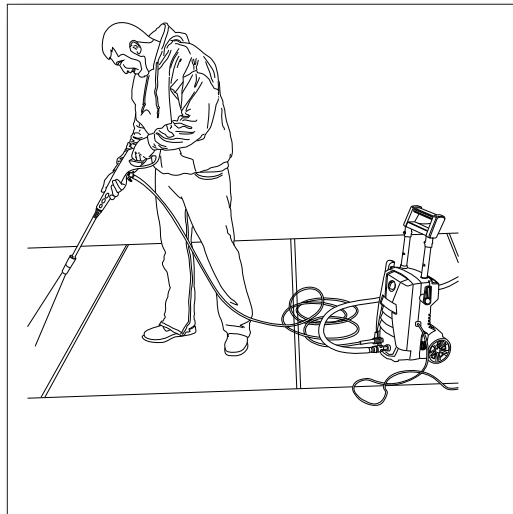

Fig. 11
**Always test** a small area to avoid chance of damaging the surface. (**Fig. 11**)